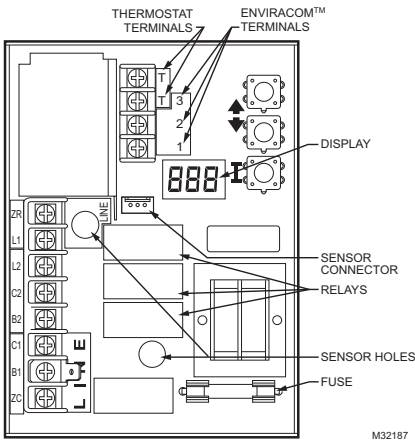

Fig. 5. Circuit board, showing sensor connection and well holes for vertical mount models.
3. Carefully align replacement sensor with hole in circuit board and guide through Aquastat case and into well. (See Fig. 5).
5. Connect sensor to circuit board by pressing connector on sensor unit into mating connector on circuit board (See Fig. 5).
To discourage unauthorized changing of Aquastat settings, a procedure to enter the ADJUSTMENT mode is required. To enter the ADJUSTMENT mode, press the UP, DOWN, and I buttons (Refer to Fig. 5) simultaneously for three seconds. Press the I button until the feature requiring adjustment is displayed: